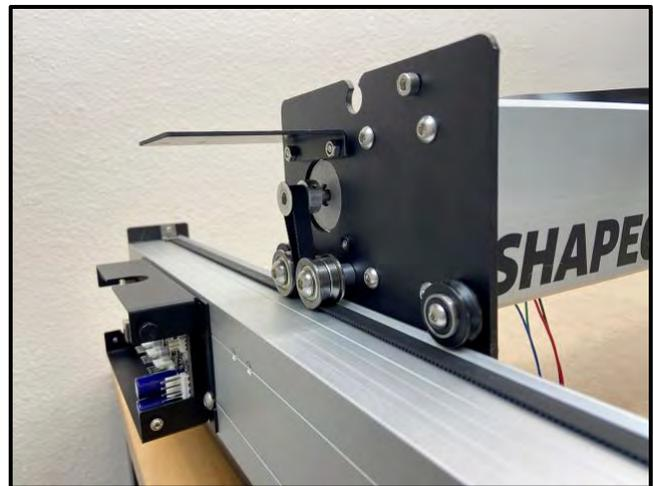

Figure 17
1. Install the Y-Axis drag chain head bracket to the outside of the Y1-carriage. See **Fig. 17**.
- a. Use a 4mm hex key and two (2) M5×16mm SHCS to replace the Y1-motor’s top two screws
- c. Use an 8mm wrench and two (2) M5 nuts to secure the bracket to the screws.